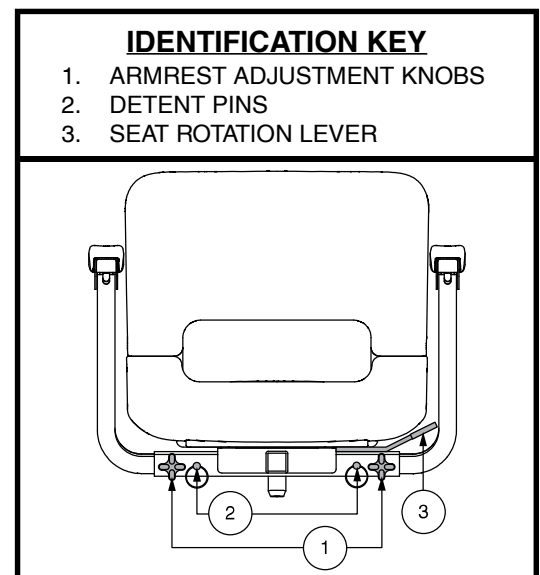

Figure 21. Seat Adjustments – Style A
1. Loosen the armrest adjustment knobs. See figure 21.
1. Depending on your seat type, either pull upward or push forward on the seat rotation lever to disengage the seat. See **figure 21 or 22**.